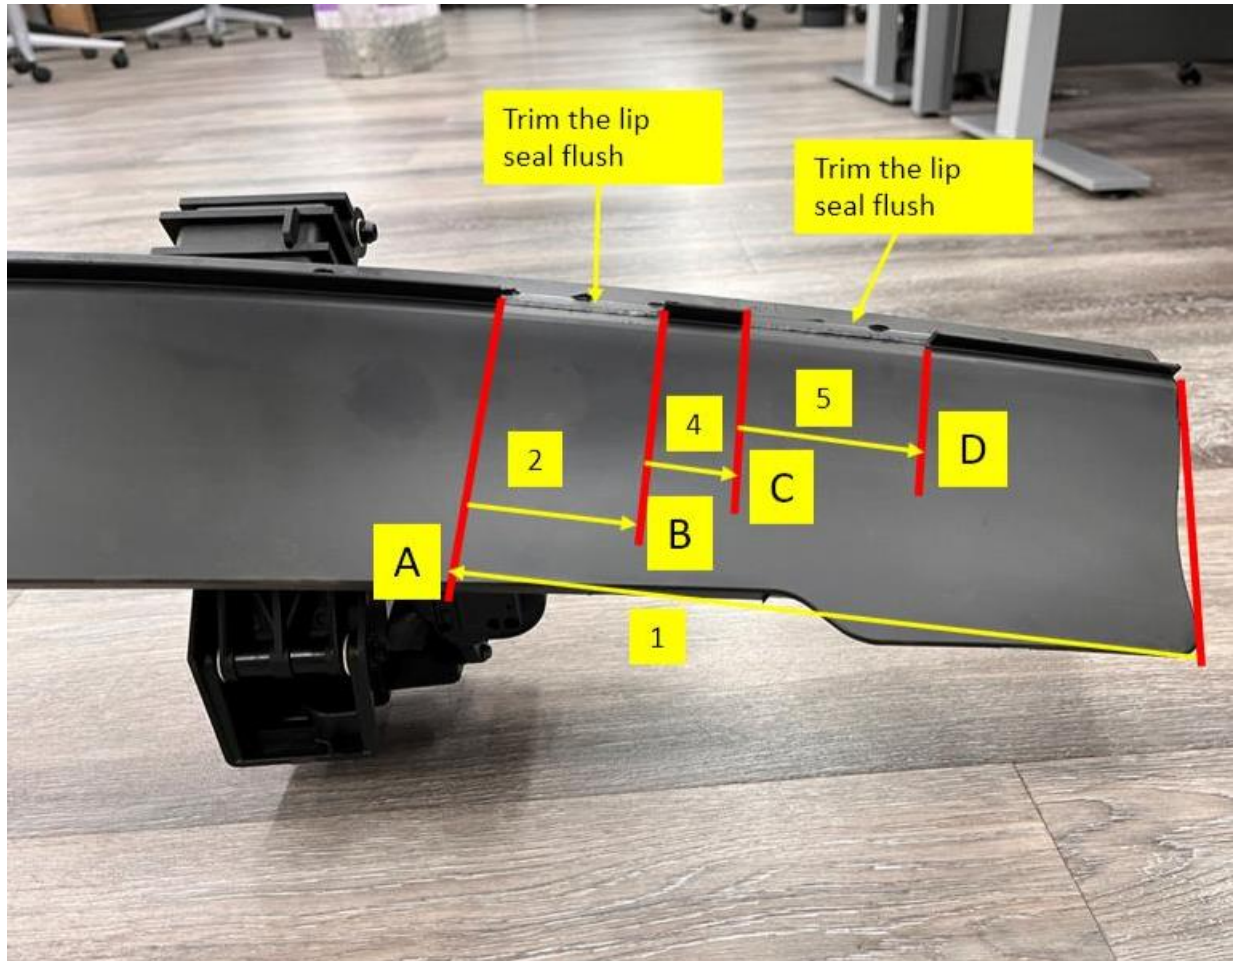

Fig 5
2. Use blue masking tape to mark the areas to be trimmed (Fig 5).